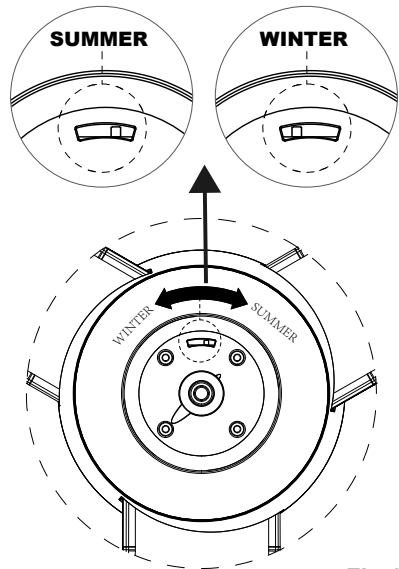

Fig.16
2. As shown in fig.16, turn the forward and reversal switch counterclockwise to turn the fan for reverse (winter), and turn the forward and reverse switch clockwise to turn the fan for Forward rotation (summer).